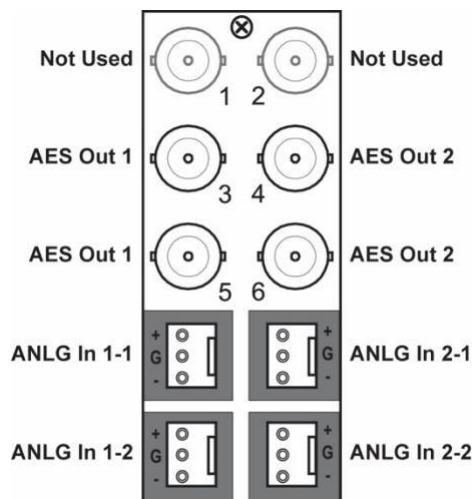

Figure 2.2 Cable Connections for the RM20-9930ADC-B Rear Module
- **RM20-9930ADC-B Full Rear Module** — Each module occupies two slots and accommodates one card. This rear module provides four 75ohm AES/EBU outputs, and one stereo analog audio input. (**Figure 2.2**)